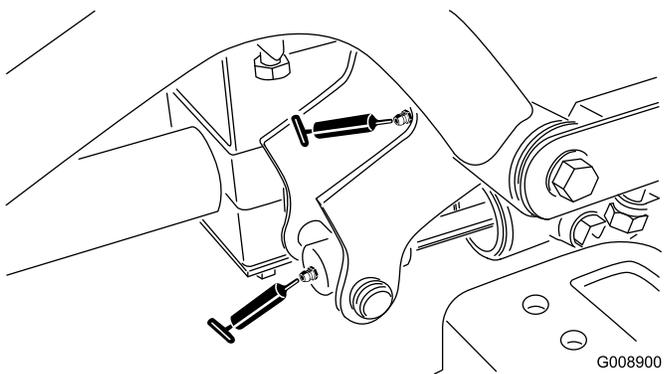

Figure 37
- 2 right, front lift-arm pivots and lift cylinder (Figure 37)